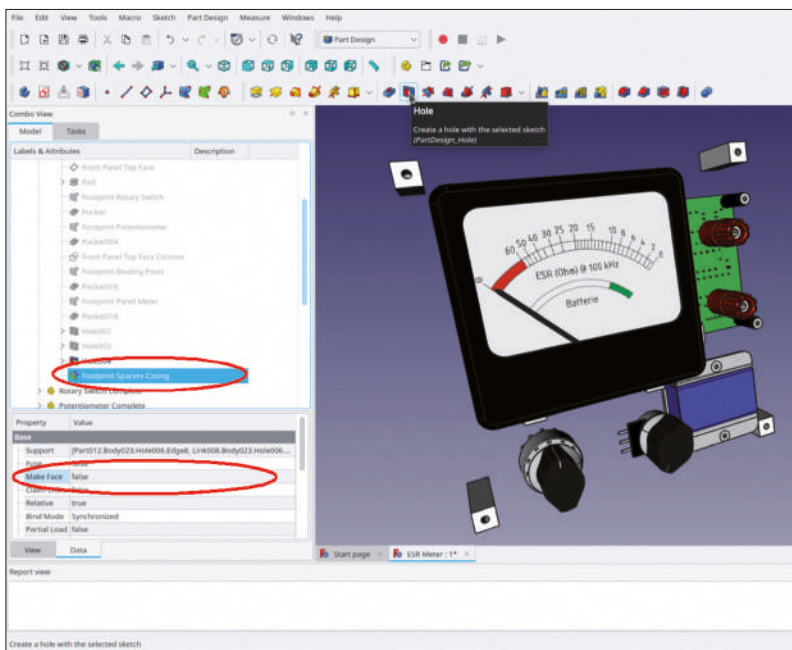

Figure 7-72
24. Rename the new SubShapeBinder in 'Front Panel' to 'Footprint Spacers Casing'. In the property list, set the property 'Make face' to False (Figure 7-72). Then, click the 'Hole' tool button.